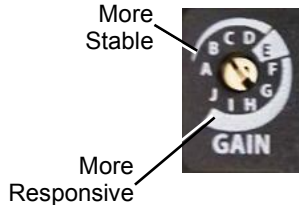

Figure 23: Selectable Gain Switch
**NOTE:** The gain switch is LIVE meaning that regardless of the Auto-Tune selection, the gain settings can be adjusted at any time during operation by changing the selectable Gain switch position. See Figure 23: Selectable Gain Switch.
Use the Selectable GAIN Switch to adjust the gain at any time during operation. This adjustment takes effect immediately. For faster response select settings above “E” (F-J). For a more stable response, select settings below “E” (B-D). See Figure 23: Selectable Gain Switch.